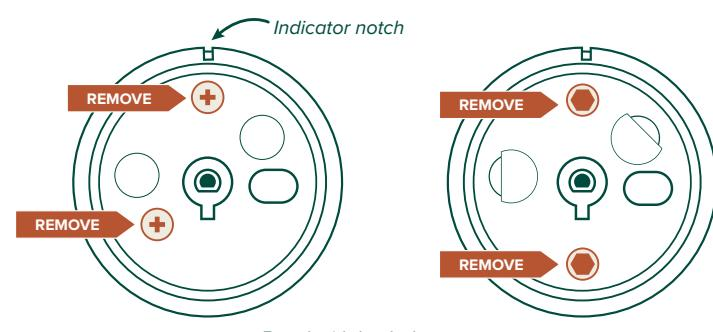

fig. 3
3. Press the bezel alignment tool onto the shaft until it is snug. (fig. 3)